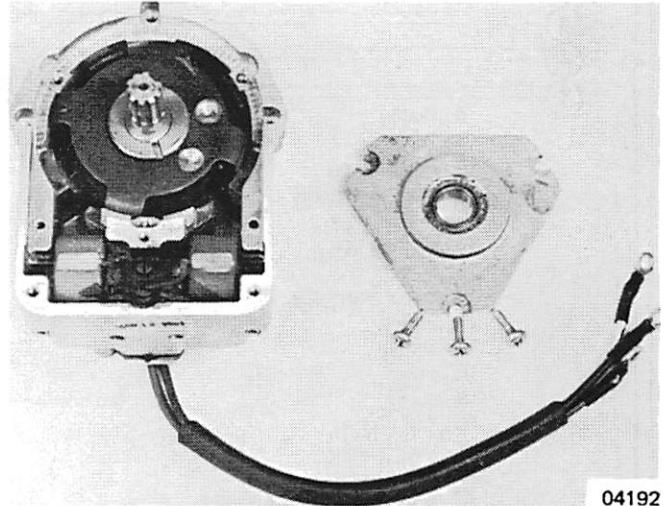

Figure 1. Bearing Cap Removal
2. Remove low and high speed coil assemblies by disconnecting soldered connection (remove solder connection only if coils are to be replaced) on terminal board (Figure 1) and loosening coil bridge set screws. (Figure 2)
3. Remove 3 screws (Figure 1) which hold bearing cap to ignition drive frame and press out magnetic rotor and shaft and bearing cap. Be careful not to damage magnetic rotor or bearing cap.